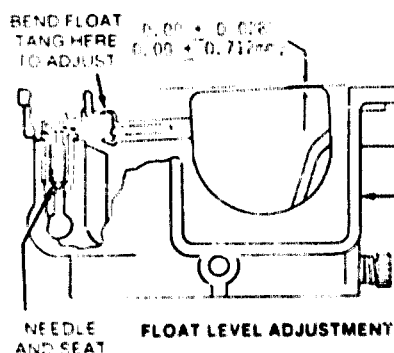
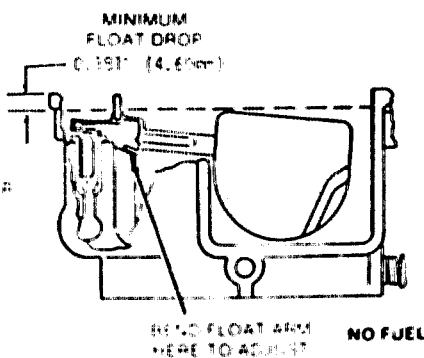

FIGURE 1.
FIGURE 2.
3. Gently push float tang down until needle just seats, measure float level as shown in Figure 1. Adjust float level if necessary. Release float tang and measure float drop as shown in Figure 2 which is (the distance from top of carburetor body to top of float).